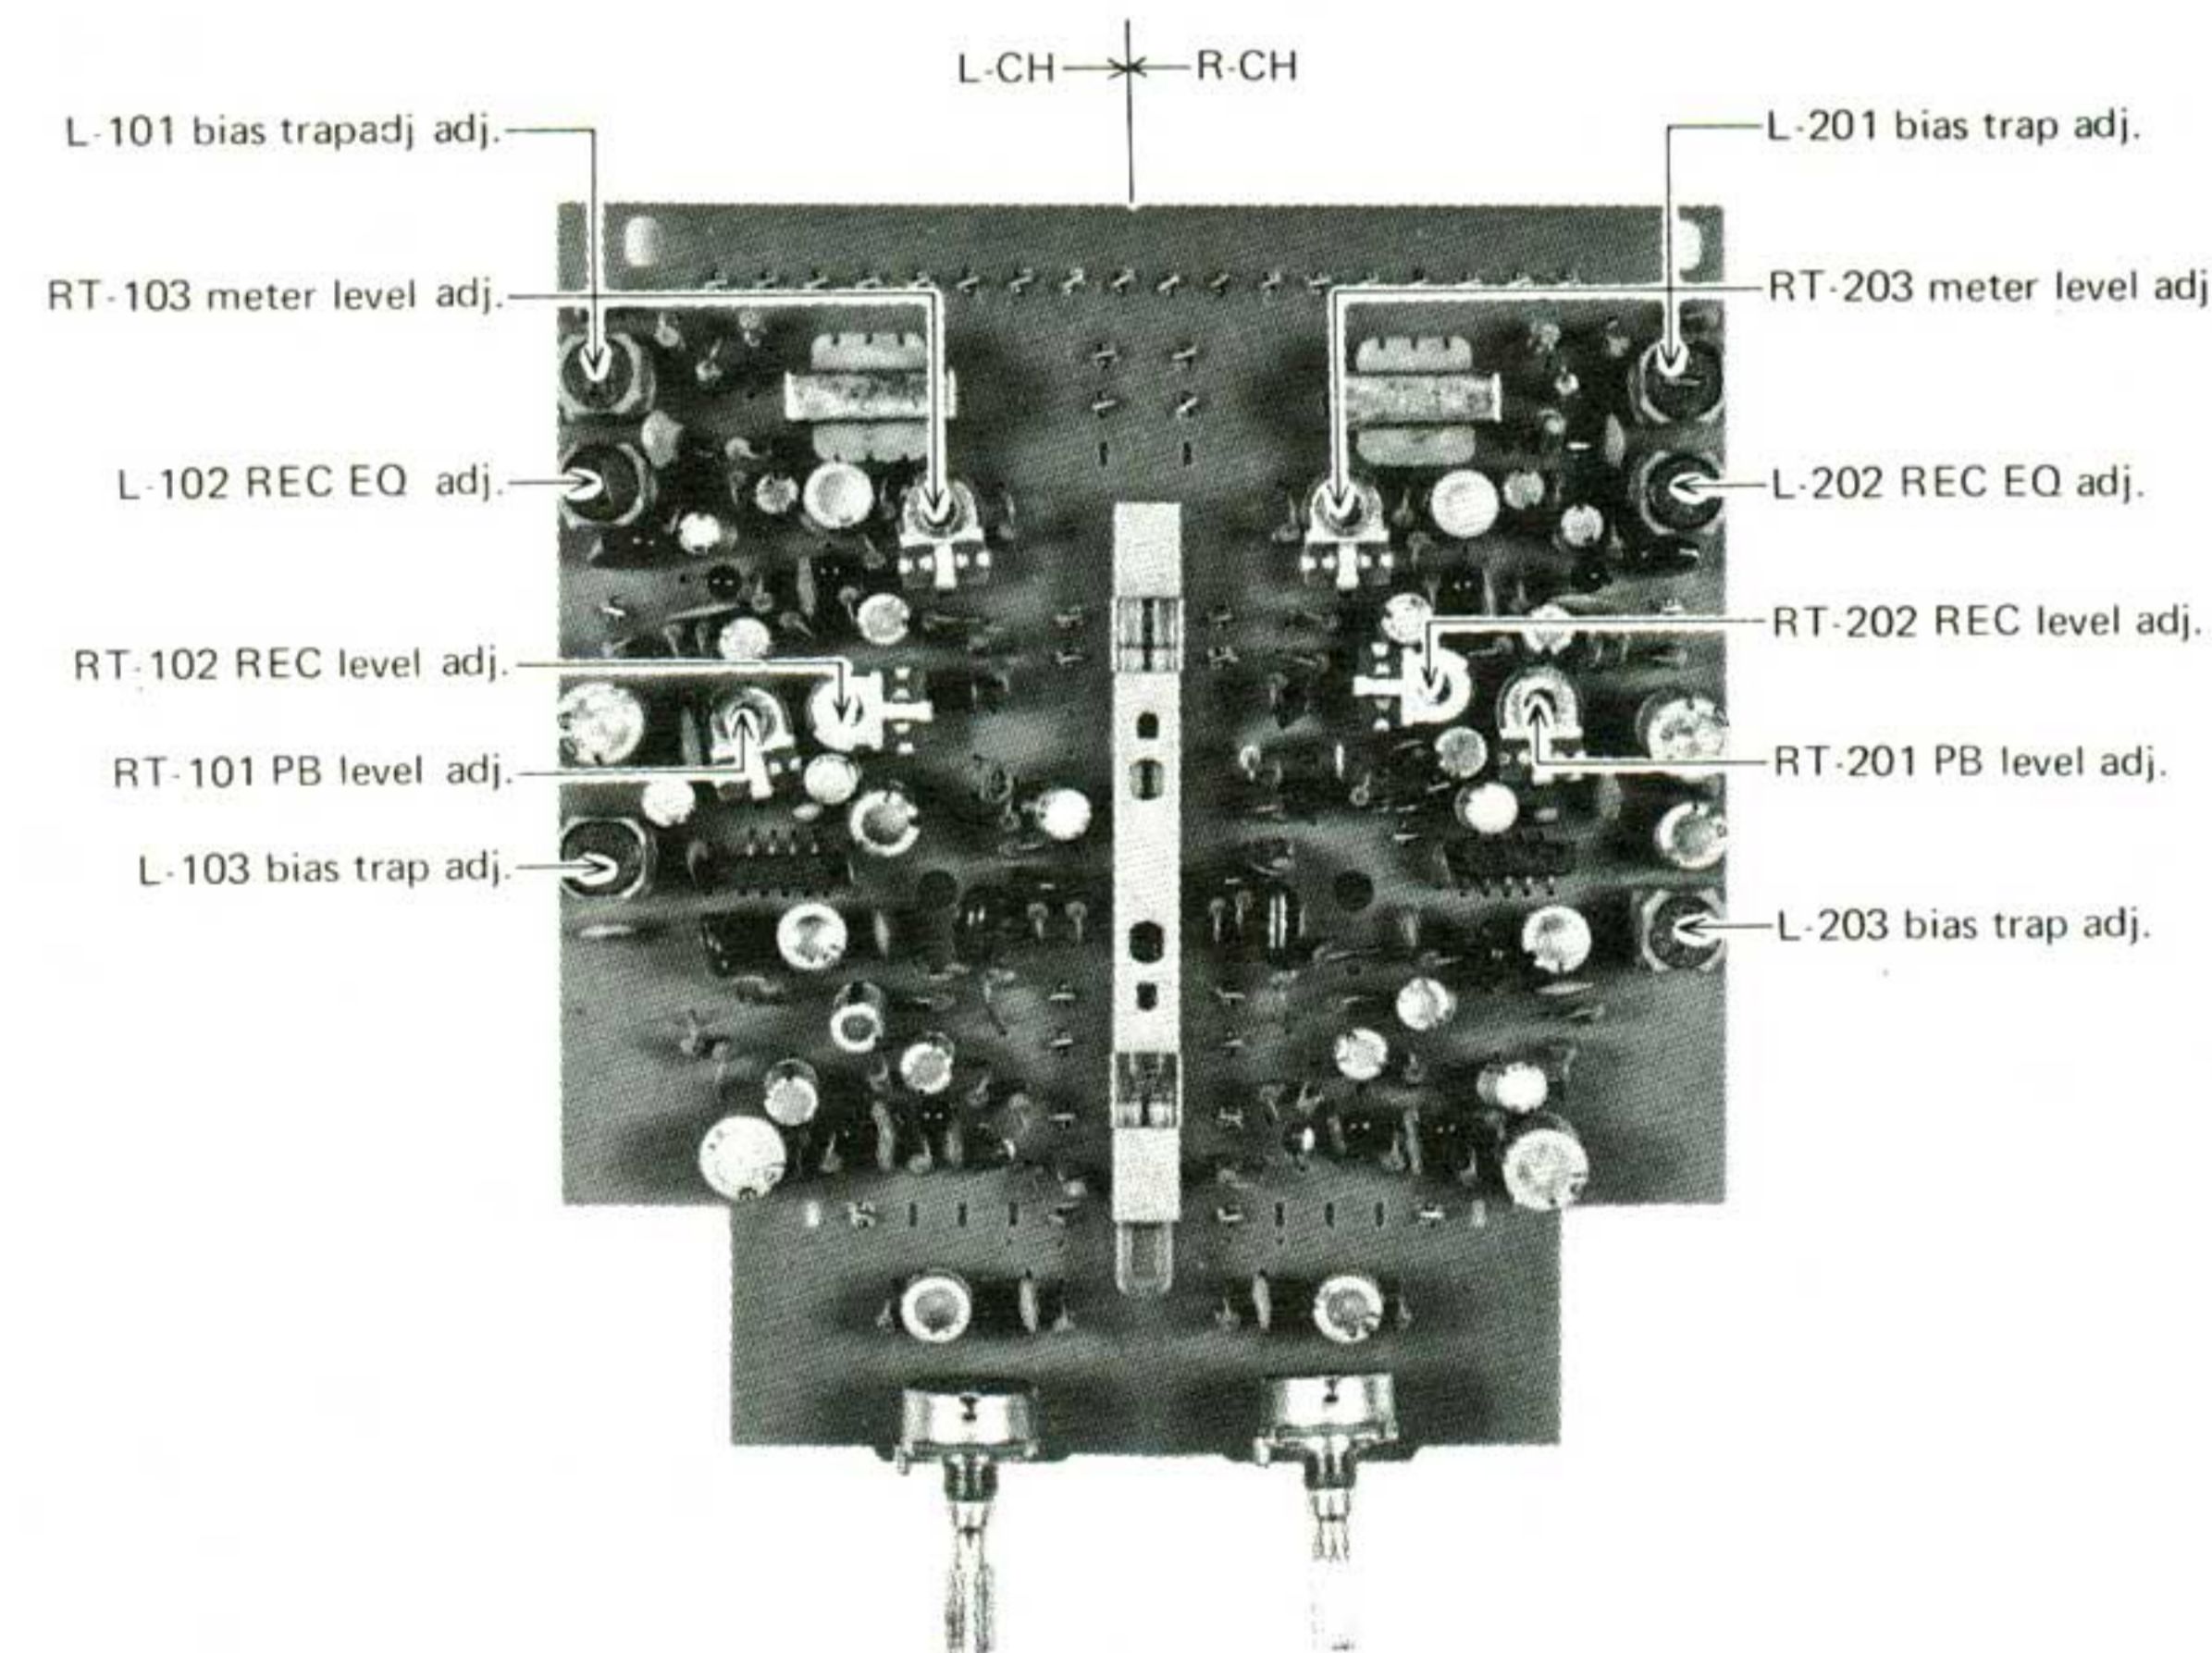

Fig. 2
- Fig. 2 Adjusting parts locations – PCM-115, Record/Playback Pre-amplifier PC Board –